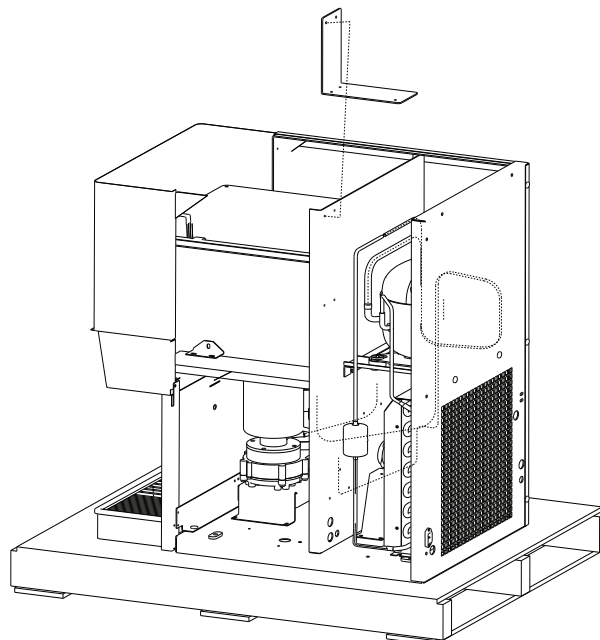

Figure 8. Installing Compressor E-box mounting bracket
12. Install the compressor E-box mounting bracket on to the centre panel as shown in Figure 8. using rivets.